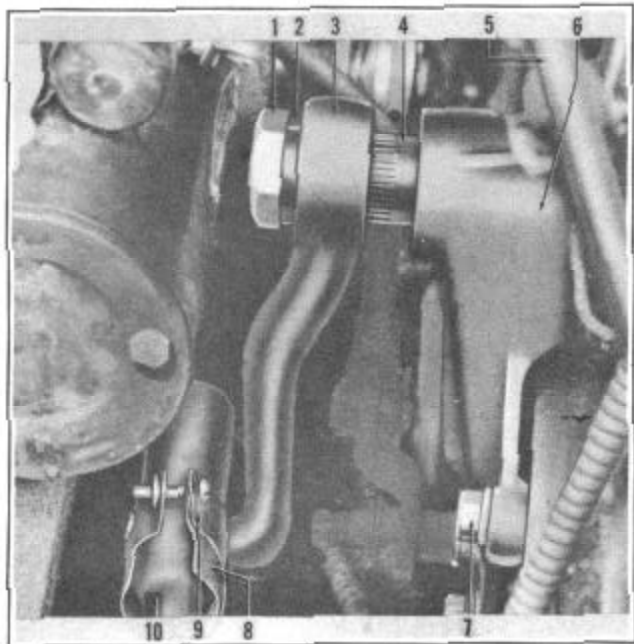

FIGURE 5
5. Remove three bolts (7), Figure 5, attaching steering gear to side frame.
6. Remove key and plug from drag link (10) at pitman arm and disconnect drag link.